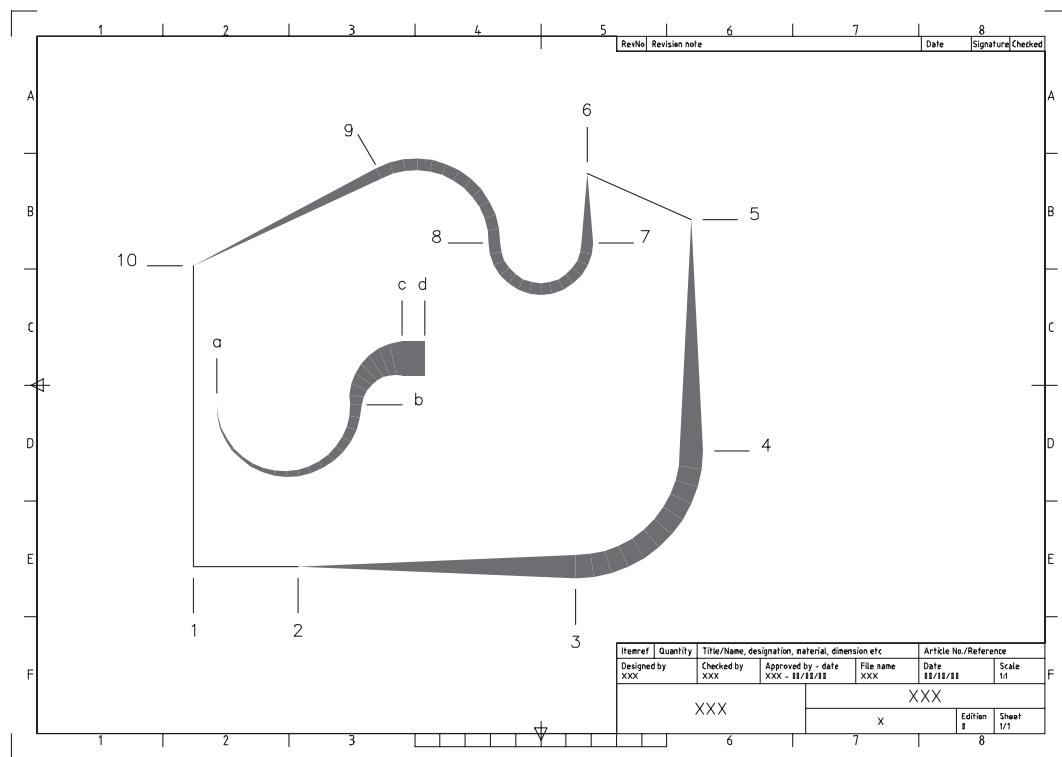

Figure 20.2 Polyline and arc segments.
- 5 Refer to Figure 20.2, select the polyline icon and:
- 6 a) If your entries are correct the polyshape will be the same as that displayed in Figure 20.2